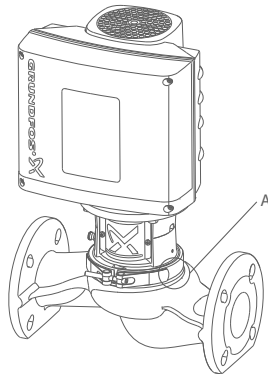

Fig. 9 Clamp (A)
When loosening the clamp, do not drop the pump head. See fig. 9.
When loosening the clamp, there is a risk of escaping vapor. See fig. 9.
1. Loosen the clamp securing the pump head to the pump housing. See fig. 9.
Do not drop the pump head. See fig. 9.